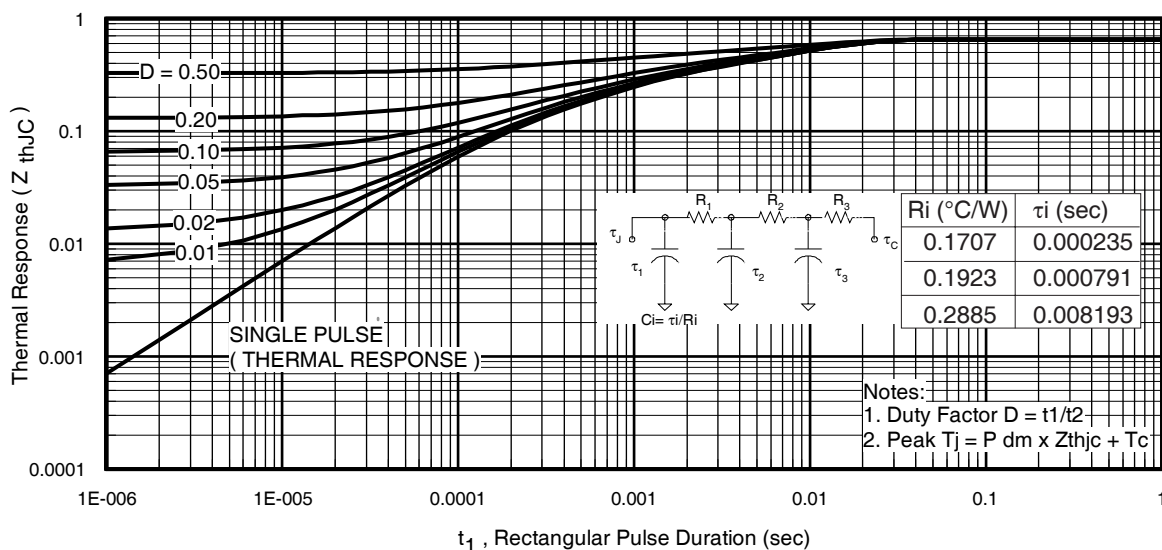

Fig 11. Maximum Effective Transient Thermal Impedance, Junction-to-Case
- ① Repetitive rating; pulse width limited by max. junction temperature. (See fig. 11).
- ② Limited by T_{Jmax} , starting $T_J = 25^\circ\text{C}$, $L = 0.064\text{mH}$, $R_G = 25\Omega$, $I_{AS} = 88A$, $V_{GS} = 10V$.
$Z_{thJC}(D, t_{av})$ = Transient thermal resistance, see figure 11)